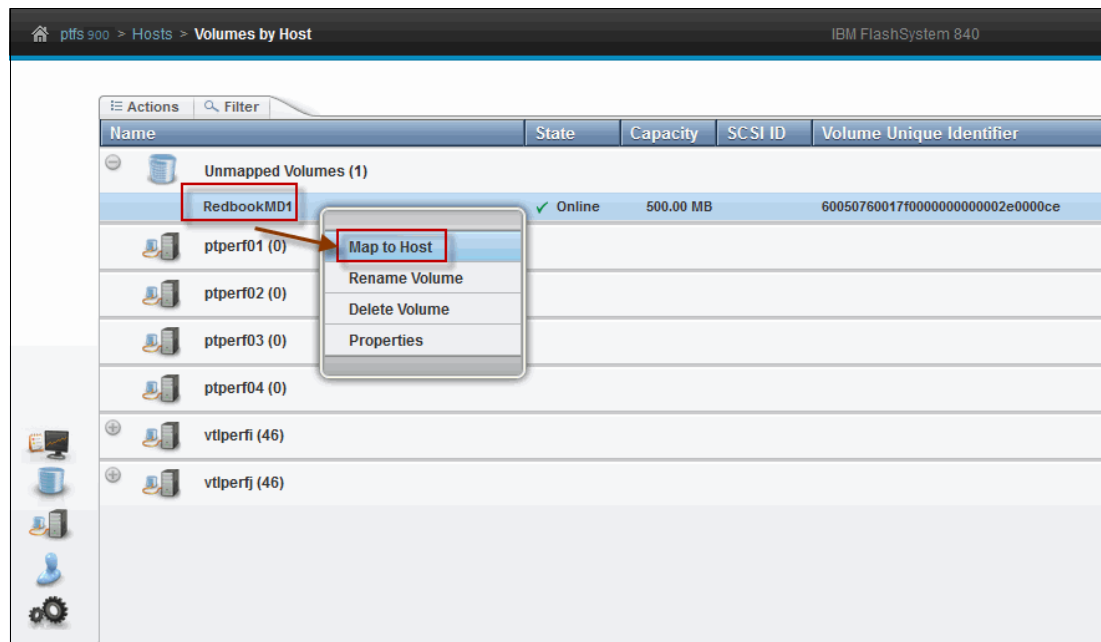

Figure 8-6 Open the Map to Host menu in the IBM FlashSystem 900
4. Right-click the volume that you want to map and select **Map to Host** (Figure 8-6).